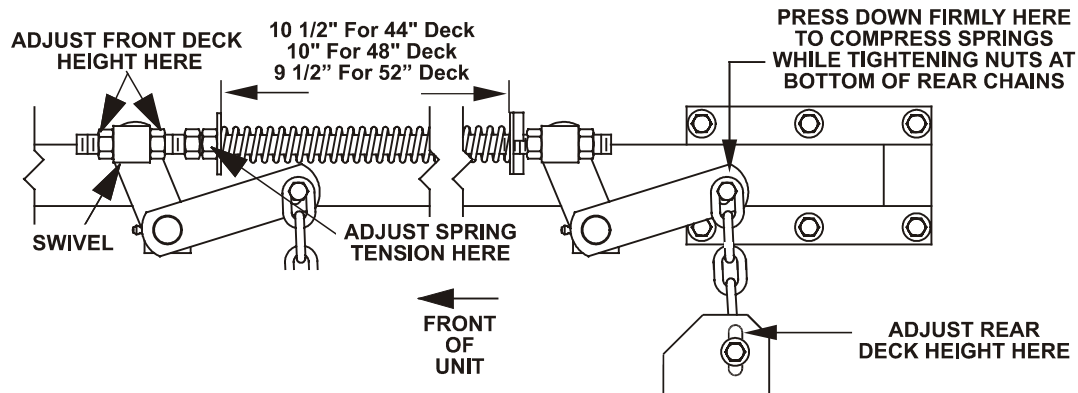

FIG. 7
- c) Check tire pressure of all four (4) tires. If needed, adjust to 13 psi (90 kPa).
- e) Raise the deck to the 4.5" height position and take as much force as possible off of the two large deck lift springs by loosening the nuts at the front of each spring. See Fig. 7.
- g) Loosen the two (2) bottom chain bolts in slots at the rear of the cutting deck. Loosen four (4) nuts which secure front swivels (two per side), until front chains are loose and front of deck is supported by the 1-1/8" block. Do not loosen front chain hardware.
- h) When hardware is loosened, remaining tension in the large support springs will tend to rotate the deck lift handle up, out of the 1 1/2" position. Press down on the rear deck support arm (as shown in Fig. 7) to firmly return the deck lift handle to the 1 1/2" position. **DO NOT** push on deck lift handle. While continuing to press down, take the slack out of the rear chains and tighten hardware at the bottom of the rear chains. Downward pressure may now be released.
- k) Raise deck lift lever to the 4.5" cutting height position (also transport position, See Fig 5. Adjust spring compression until proper distance is obtained between the two washers (See Fig 7) by turning the nut at the front of each spring. Lock nuts in position with jam nuts.